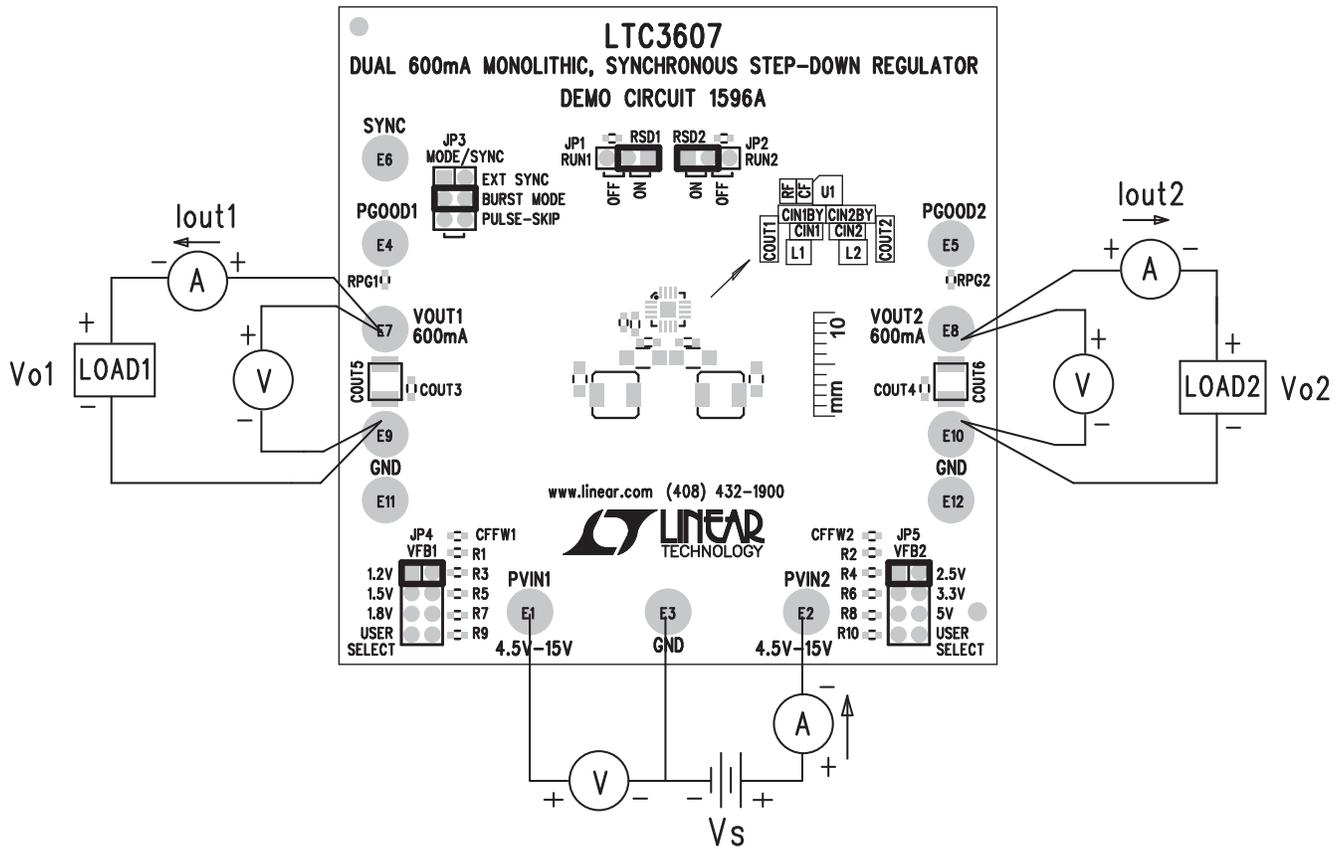

Figure 1. Proper Measurement Equipment Setup
The DC1596 is easy to set up to evaluate the performance of the LTC3607. For a proper measurement equipment configuration, set up the circuit according to the diagram in Figure 1.
1. Connect the input power supply to the PVIN1/PVIN2 and GND terminals ( $V_{IN1}$  and  $V_{IN2}$  are separate nodes but are connected). Connect the loads between the VOUT and GND terminals. Refer to Figure 1 for the proper measurement equipment setup.